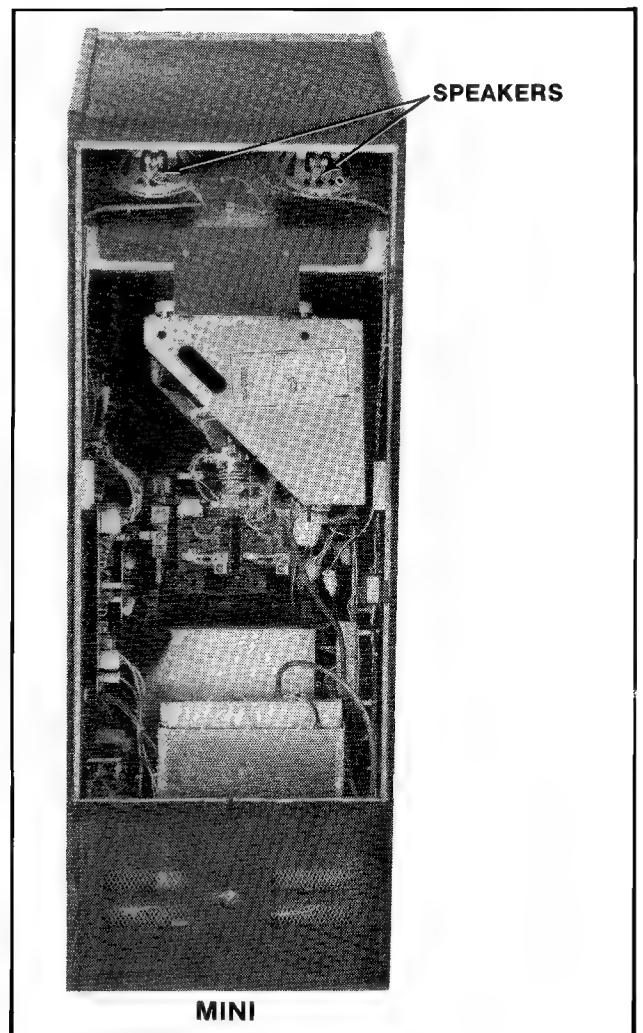

Figure 31 Replacing speaker — Mini game
- To replace the speaker. See Figure 31.